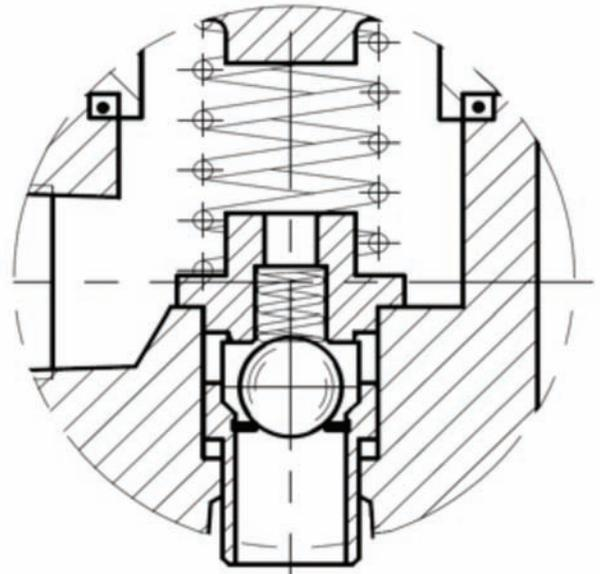

Figure 20
2. **Vapor Removal System (VRS) option (Figure 20)** provides rapid flow-through of vapor until liquid reaches the valve and then closes off the vapor orifice for maximum pump efficiency and flow rate. i.e. fulfills an excess-flow valve type of function. **NOTE:** once the orifice is closed, the valve operates like a standard bypass valve with no liquid bleeding past the orifice.